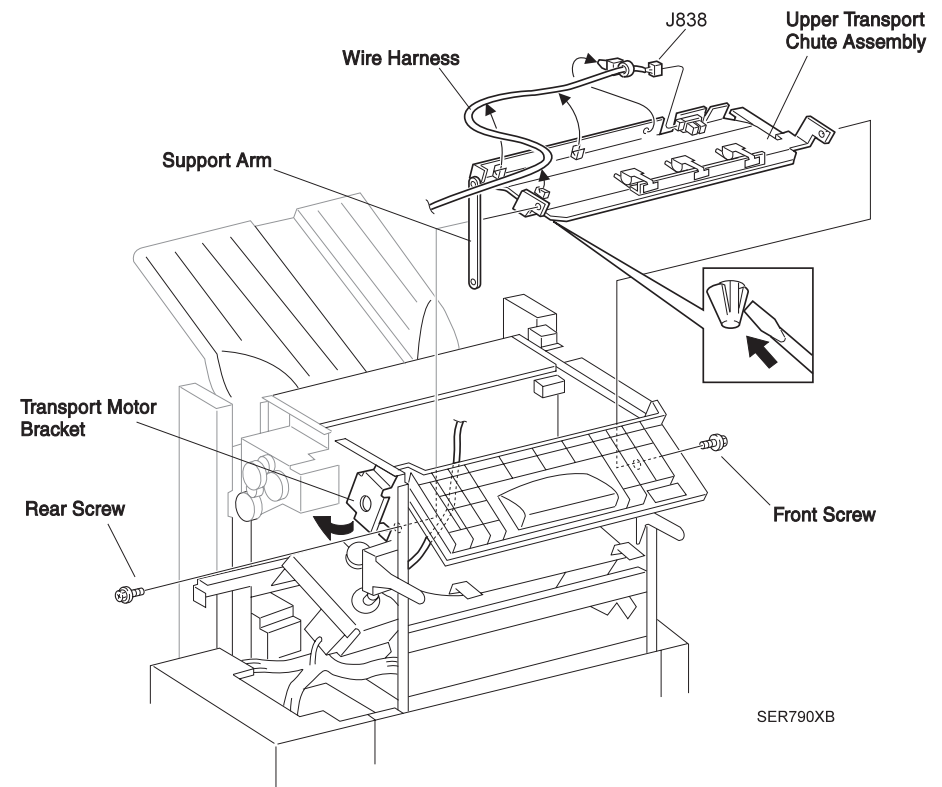

Figure 3-71. Upper Transport Chute Assembly
1. Place the Upper Transport Chute Assembly as shown in the Figure 3-71 and install it to the HCS.